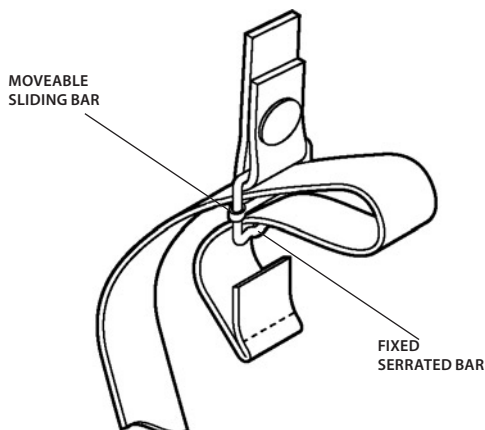

Figure 4-2. Threading the Sliding Bar Buckles
(1) Thread the strap from the inside of the buckle over the moveable sliding bar (see Figure 4-2.). Thread the strap back through the buckle but this time under the moveable sliding bar and over the serrated part of the buckle.
(2) Pull the strap through the buckle and tighten as necessary.
(3) Repeat steps 1 and 2 for other straps and buckles that may have come undone.